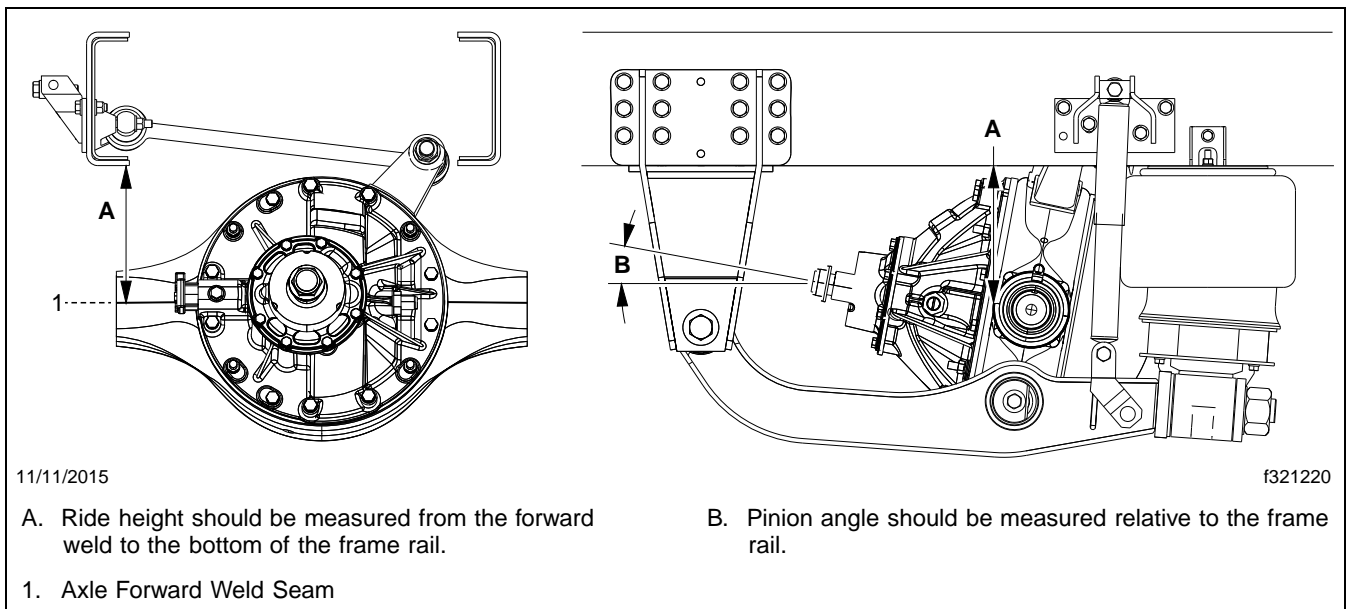

Fig. 2, Measuring Ride Height and Pinion Angle
13. Set the suspension ride height using frame jacks to raise the rear of the vehicle until the distance between the rearmost axle's forward weld seam and the frame rail measures 9.5 inches (24 cm). See **Fig. 2**.